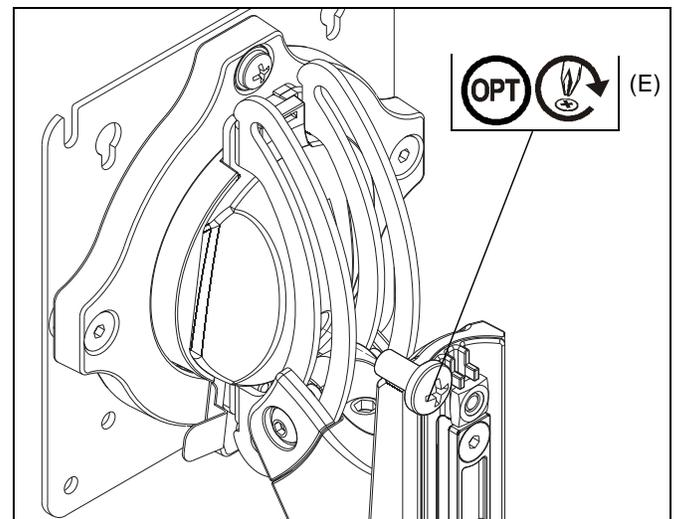

Figure 8
**NOTE:** In order to prevent display from being easily removed from mount using the quick release lever, install M4x4mm security screw (E) into lower hole on back of faceplate. (See Figure 8)